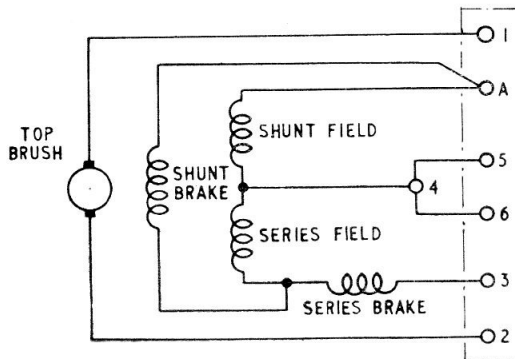

Fig. 3. Wiring diagram (main motor)
16. Essentially both motors are the same, but the plug connections are purposely made non-interchangeable (fig. 3 and 4). The motors are the same as the one on the Type AE4023, Mk. 1, actuator (Chap. 90).